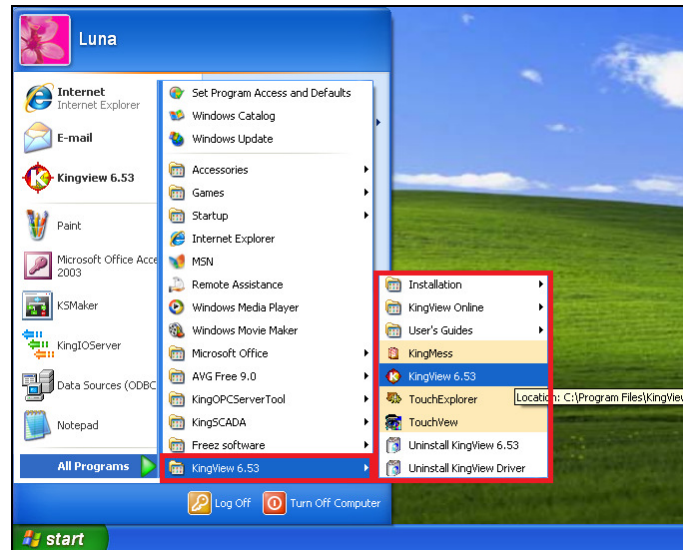

Fig. 2 Find KingView in Start Menu
1. Click “All Programs->KingView 6.53->KingView 6.53” from the “Start” menu in Fig. 2.